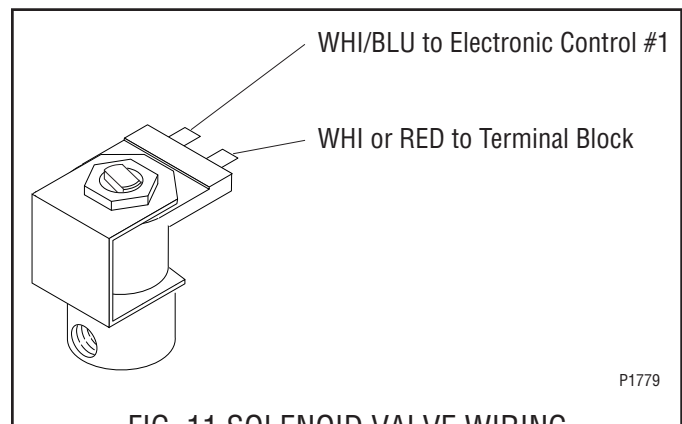

FIG. 11 SOLENOID VALVE WIRING
10. Reconnect the wires, FIG. 11.